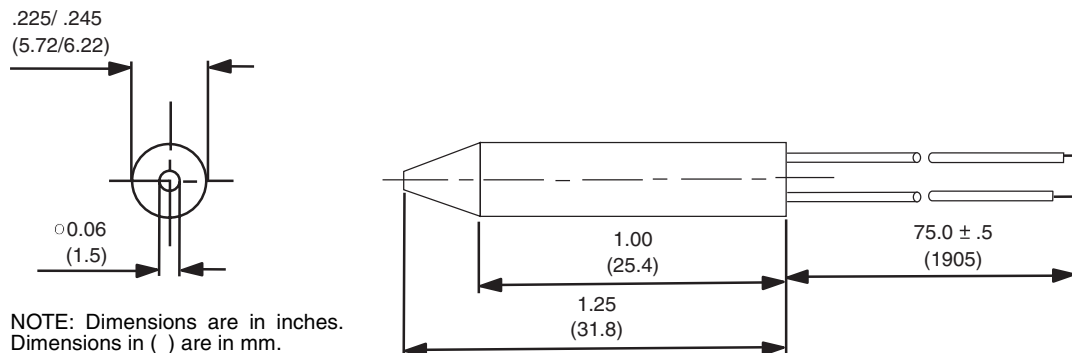

**Fig. 5 — 33ZCSENDAT Duct Sensor**
**Install Duct Temperature Sensor** — The duct temperature sensor is required. The duct temperature sensor must be installed in the supply air duct. The 33ZCSENDAT is the recommended sensor. See Fig. 5 for sensor details.